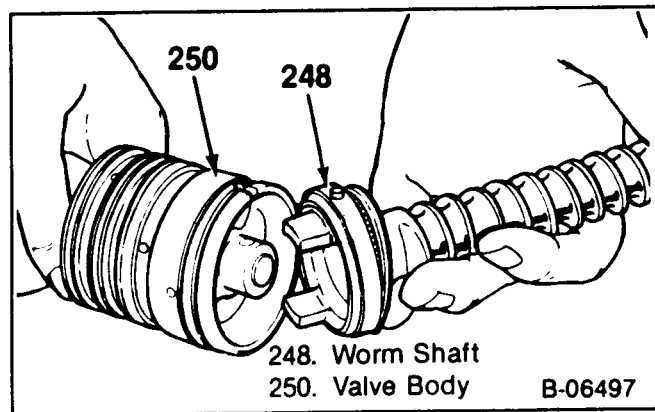
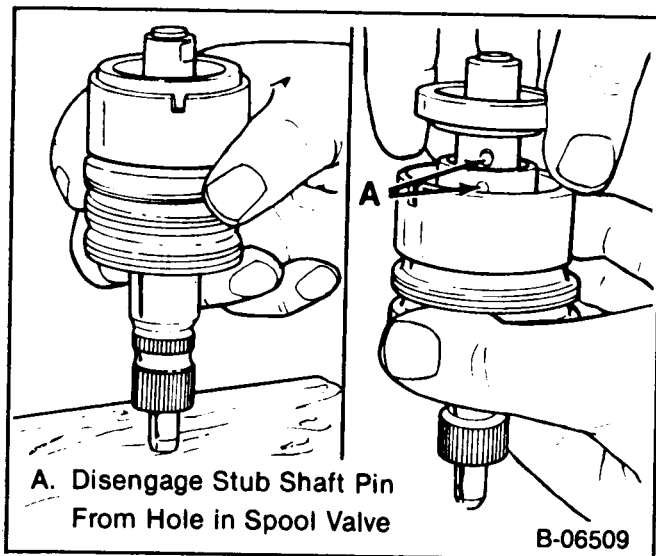
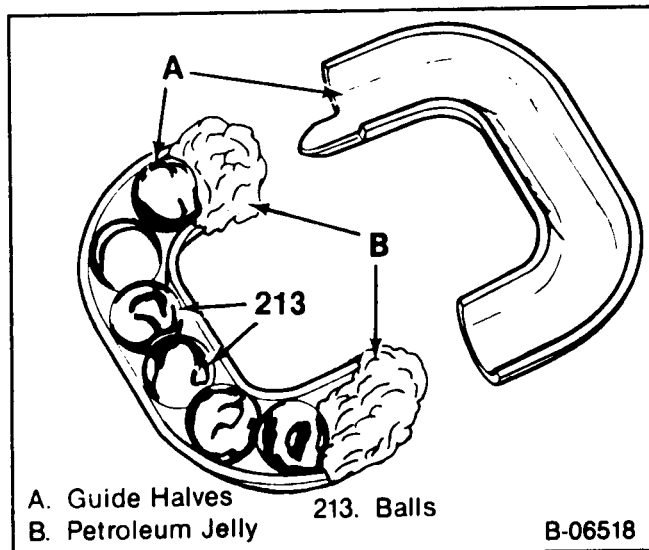

Figure 9—Separating the Wormshaft from the Valve Assembly
Figure 10—Removing or Installing the Stub Shaft Assembly
Figure 14—Retaining the Balls in the Ball Guide
13. Valve (250) and wormshaft (248) as an assembly, with both races (246) and bearing (247).
- Wormshaft (248) from valve assembly (figure 9).
- Races (246) and bearing (247) from the wormshaft (248).
- Seal (249).
14. Stub shaft (251) from valve body (250) (figure 10).
3. Balls (213), alternating by color, in the ball guide (212) (figure 14).
4. Ball guide (212), clamp (211) and screws (210) to the rack piston (214).
5. Stub shaft (251) into the valve body (250) (figure 10).
- Lubricate the stub shaft (251) with power steering fluid.
6. Valve spool (252) and seals (230, 231) into the valve body (250).
- Lubricate the valve spool (252) and seals (230, 231) with power steering fluid before assembling.